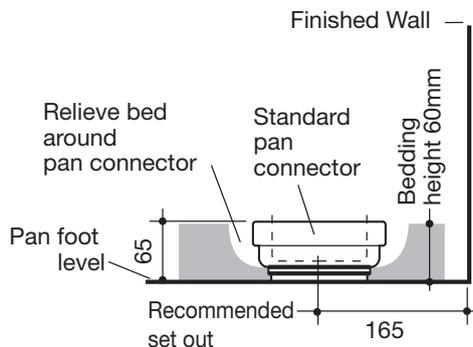

Fig. 1
The soil pipe and pan collar should be accurately fixed into position as recommended for Stylus cisterns, as detailed in Figure 1.
3. Prepare bedding sand cement mixture 3:1 to depth of 65mm as detailed in Figure 1.